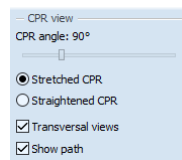

Figure 309 – CPR view settings
- To change the position of the transversal views along the curved plane, drag and drop yellow intersection line belonging to the central (B) transversal view.
- To show/hide CPR path, check/uncheck the **Show path** check box in the **CPR view** part in the **CPR tool** (see Figure 309).
- To change the current CPR projection, click **Stretched CPR** or **Straightened CPR** radio button in the **CPR view** part in the **CPR tool** (see Figure 309).
Transversal views can be hidden anytime by unchecking **Transversal views** check box in the in the **CPR view** part in the **CPR tool** (Figure 309).